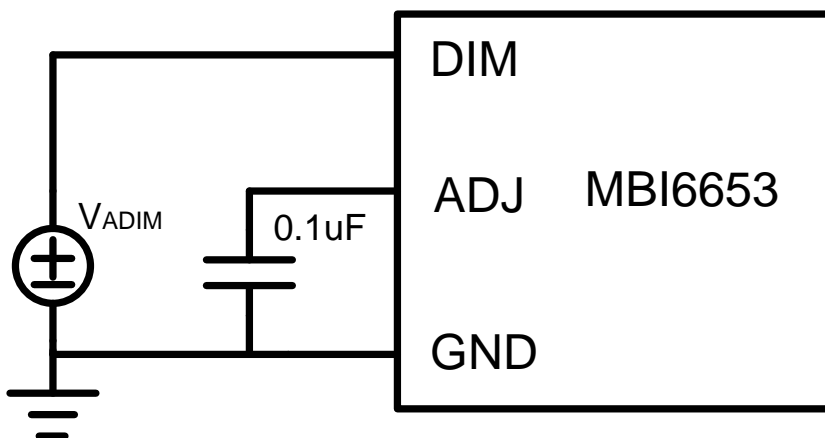

Fig.6 Analog dimming by external DC voltage
The analog dimming function can be activated by applying an external DC voltage (V_{DIM}) at DIM pin. To prevent the noise interference, it recommends connecting $0.1 \mu F$ capacitor in parallel to the DIM pin, as shown in Figure 6. In analog dimming application, output dimming current (I_{LED_ADIM}) will rise with V_{DIM} voltage level increasing. Equation (1) shows that $I_{LED_100\%}$ is programmed by R_{SEN} resistor,